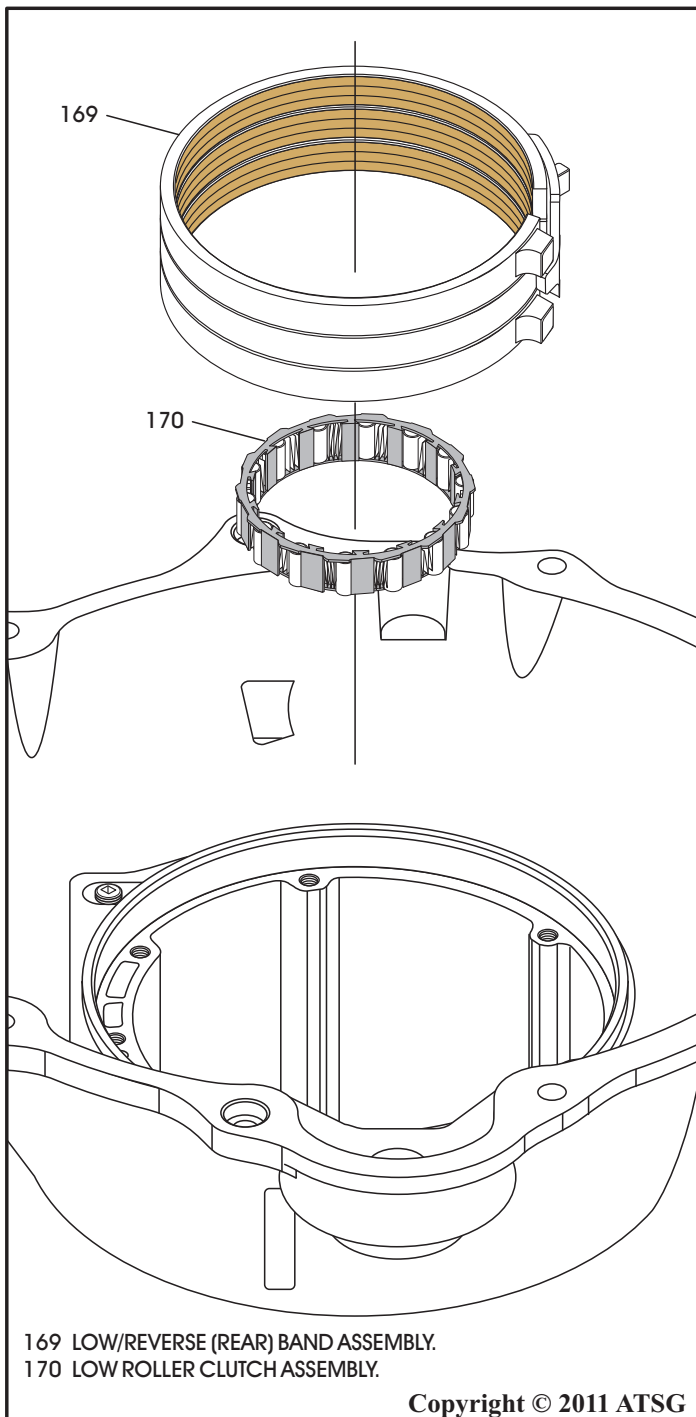

Figure 217
2. Dip the low roller clutch assembly in ATF +4 fluid and install into the low roller clutch cam, as shown in Figure 217.
3. Install low/reverse band, as shown in Figure 217, and ensure it is seated properly against the rear band anchor pin in the case.